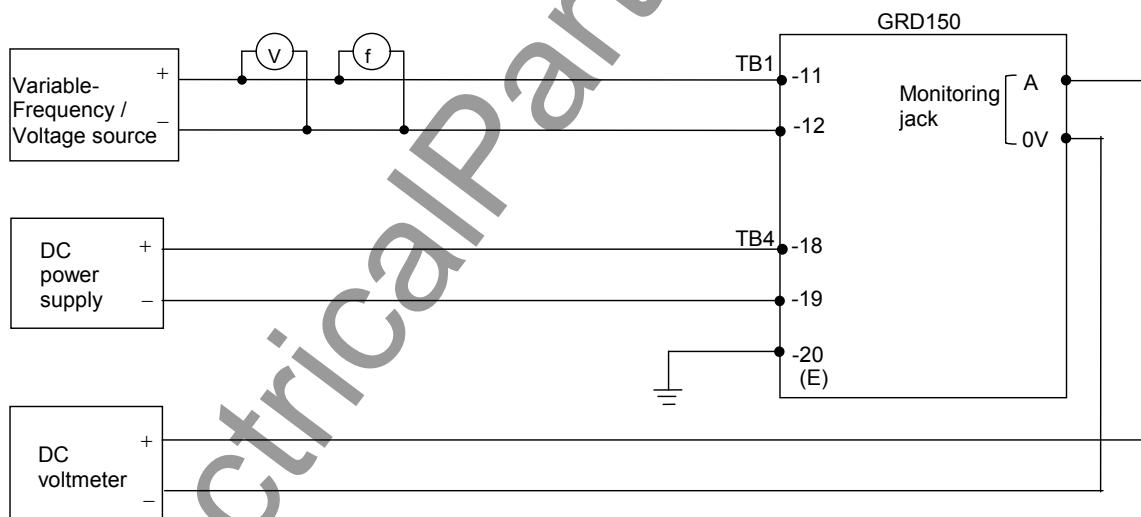

Figure 6.5.12 Operating Value Test Circuit
The testing circuit is shown in Figure 6.5.12.
- Apply a rated voltage and frequency as shown in Figure 6.5.12.